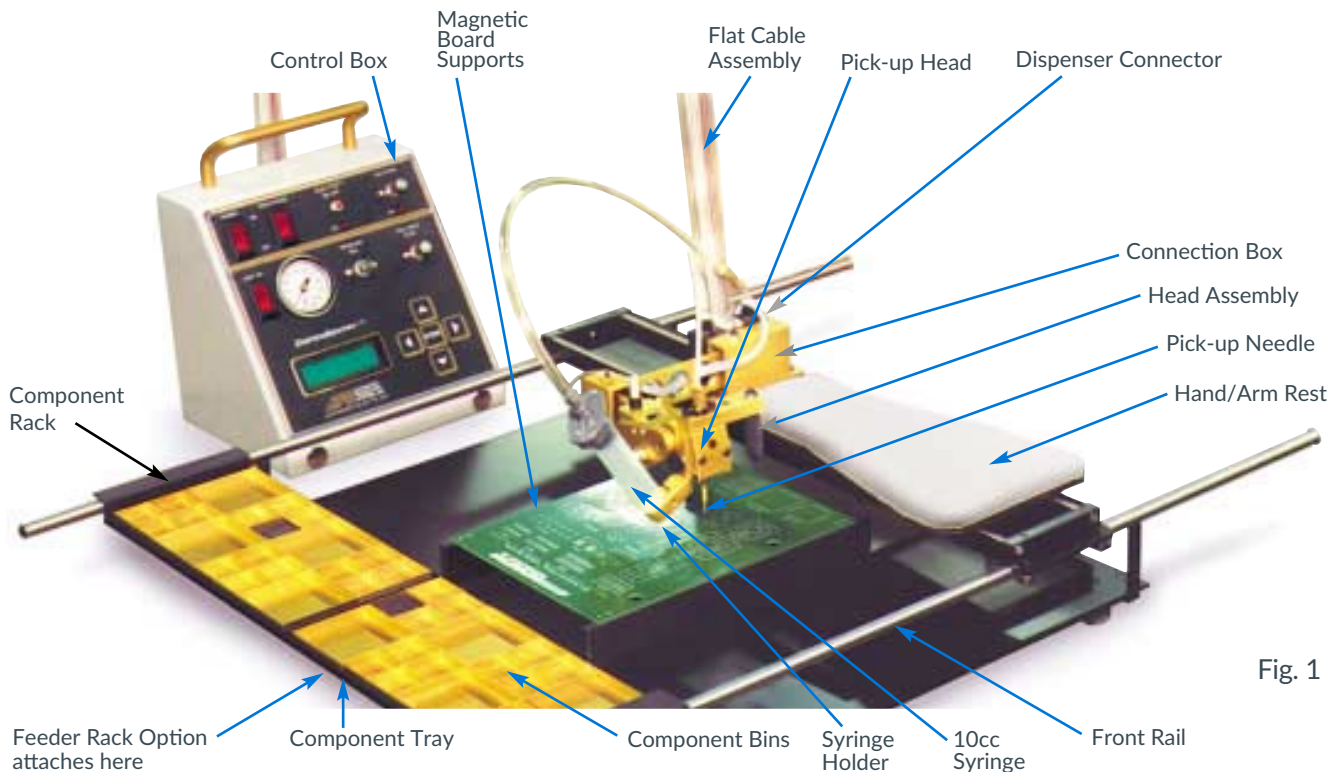

Fig. 1
3. Set-up And Installation (Refer to Figs. 1, & 2)
8. Place component rack on rails and ensure that it slides properly (refer to Fig. 1).
9. Place (2) component trays in component rack and ensure that bins are seated properly in trays.
4. Operation (Refer to Fig. 1.)